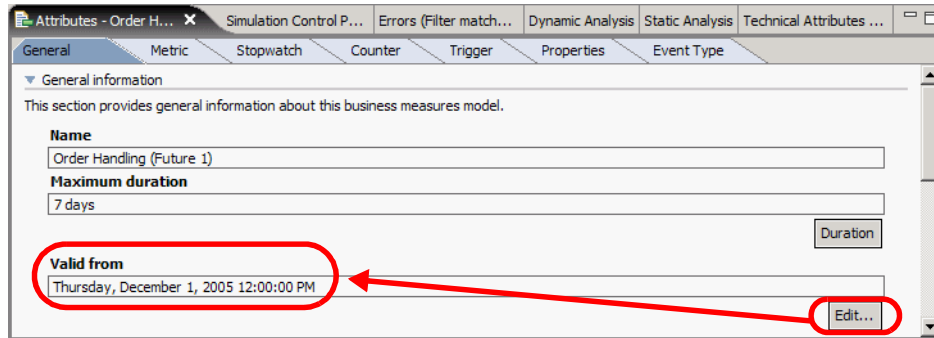

Figure 8-36 Setting the valid from date
- ▶ In the Attributes view *General* tab set the valid from date (Figure 8-36).